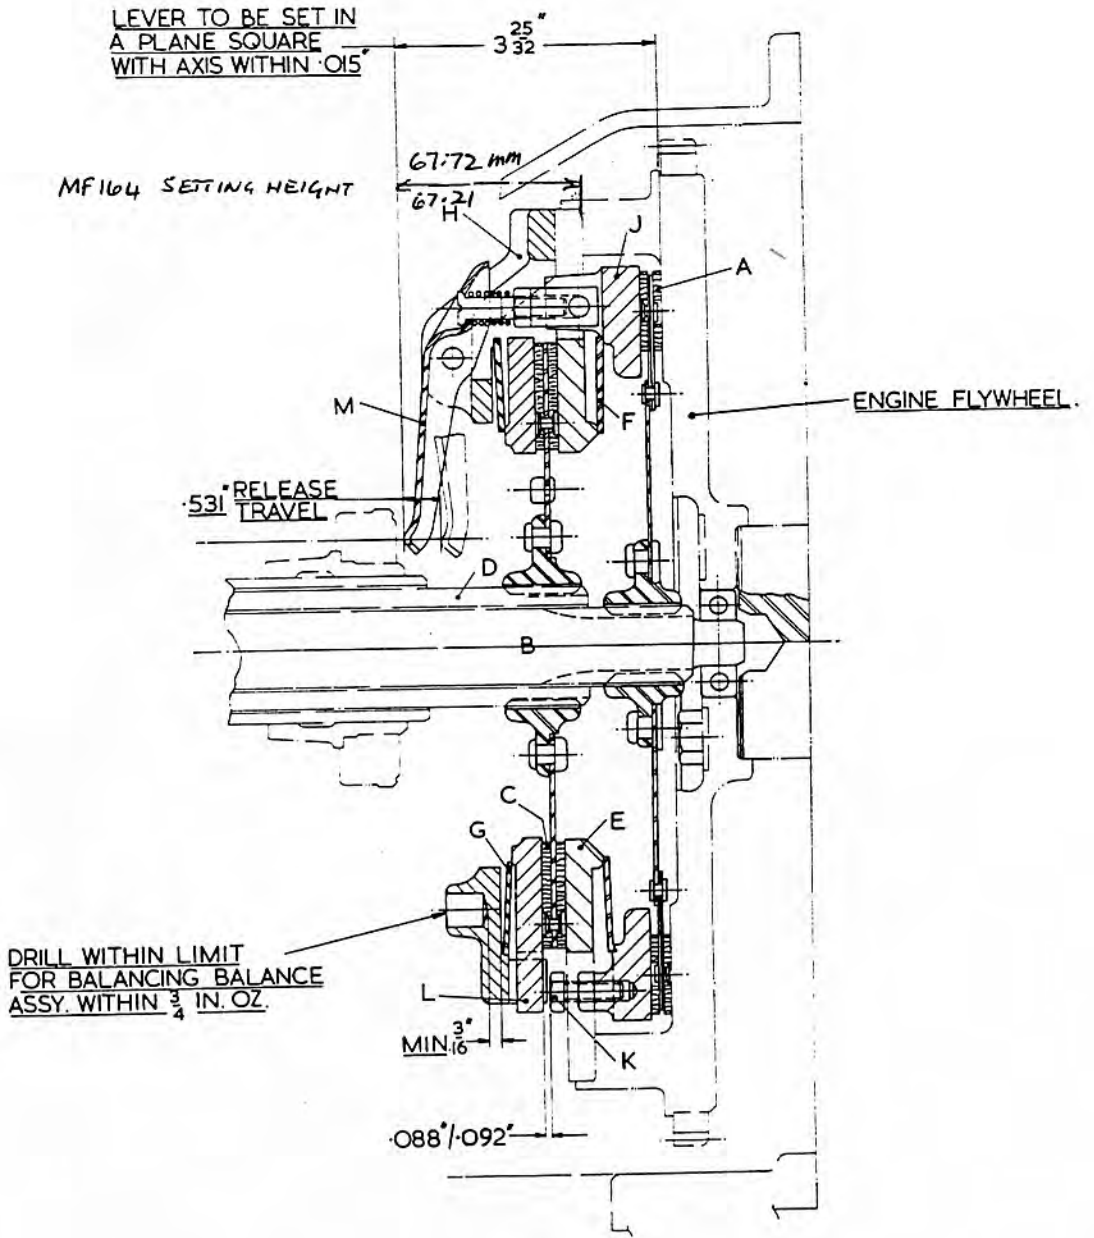

FIG. 2
DUAL CLUTCH FIG. 2.
Components (Fig. 2)
To obtain a clear release, the inner ends of the release levers (M, Fig. 2) should travel $\frac{1}{2}$ inch (12.7 mm.) towards the flywheel. If the adjustment of the pedal is correct, this movement will be obtained when the pedal reaches the pedal stop, which is not adjustable.
The clearance between the head of the three adjusting screws (K, Fig. 2) and the rear pressure plate (L) must be maintained at $.088"/.092"$ (2.24-2.34 mm.) as indicated in Fig. 2.